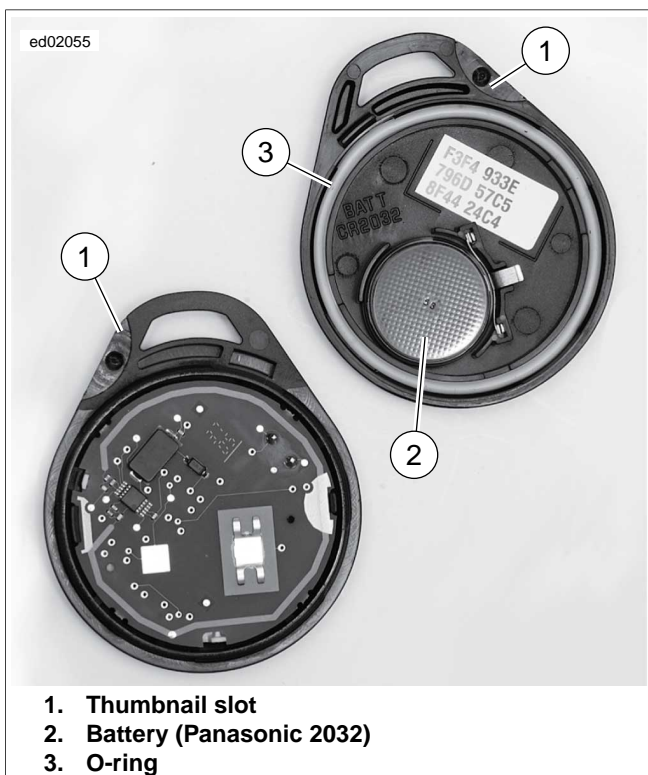

Figure 3-36. Open Fob: HFSM
1. See Figure 3-36. Open the fob case.
- a. Place a thin blade in the thumbnail slot (1) between the 2 halves of the case.
2. Replace battery (2).
3. With O-ring (3) in place, align case halves and snap case halves together.